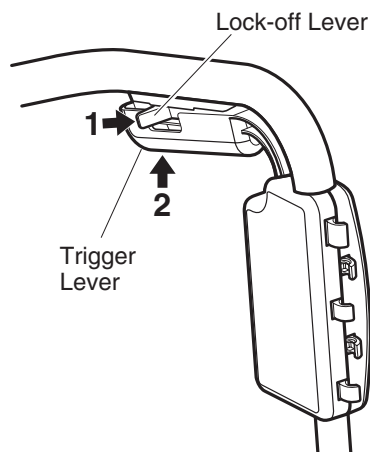

Figure 11 - Lock-off Lever and Trigger Lever
2. Use your thumb to slide the lock-off lever all the way to the right (see Figure 11). This releases the trigger lever.
3. Squeeze the trigger lever all the way in (see Figure 11). The motor will start and the tines will begin to rotate. Once the tiller is started, the lock-off lever can be released.